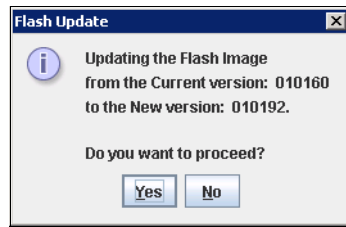

Figure 7-57 Flash Update window
7. In the Flash Update message window (Figure 7-57), click **Yes** to proceed with the update.